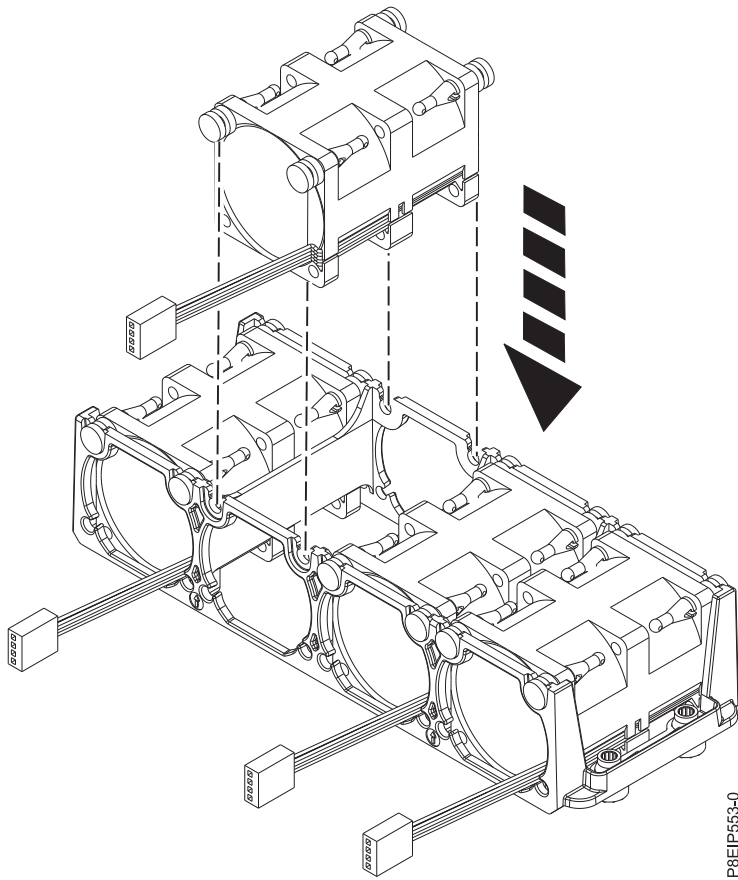

Figure 19. Replacing a fan
2. With the fan holder lifted, push the fan into the housing as shown in Figure 19 on page 22. Align the standoffs in the fan with the slots in the fan holder.